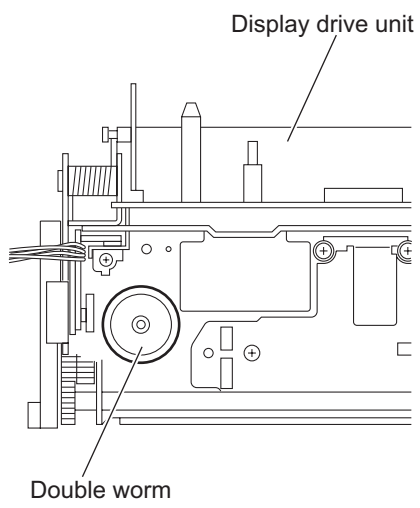

Fig.11
- (8) From the top side of the display drive unit, pull the double worm in an upward direction. (See Fig.11.)